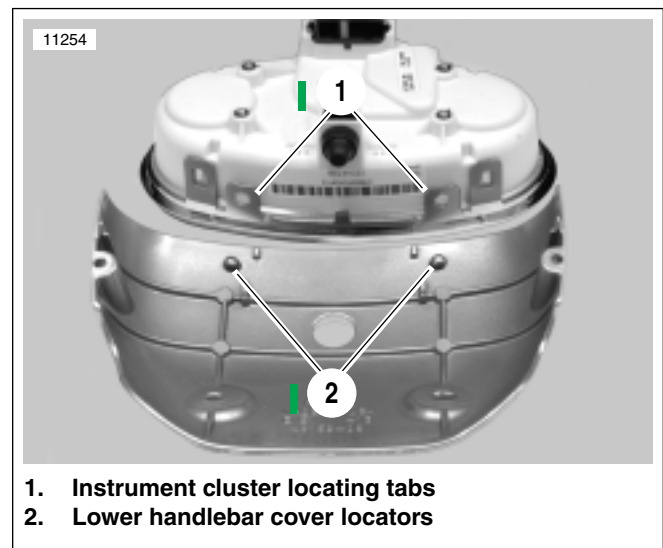

Figure 2-74. Instrument Cluster and Lower Handlebar Cover (removed from motorcycle for photo clarity)
2. See Figure 2-74. Mount instrument cluster in lower handlebar cover by matching up instrument cluster locating tabs (1) with lower instrument cluster cover locators (2).
4. See Figure 2-74.. Install instrument cluster cover fasteners. Tighten fasteners to 1.3-1.9 Nm (12-16 in-lbs).
- b. Apply LOCTITE® PRISM PRIMER (770) to inside of **new** handgrip. Remove any excess PRISM PRIMER with a clean cloth. Wait two minutes for PRISM PRIMER to set before attempting the next step.
- c. Apply LOCTITE® PRISM SUPERBONDER (411) to inside of handgrip. Install handgrip on handlebar. Repeat procedure for other side.